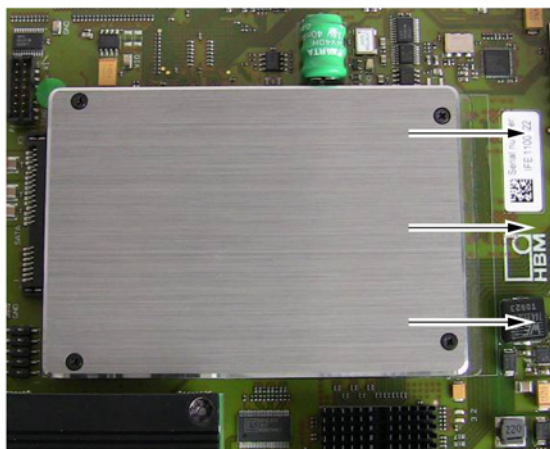

Figure E.10: Removal of the disk (Part 2)
- 4 Slide the SSD disk out of the SATA connector by carefully moving the disk to the right as shown in Figure E.10